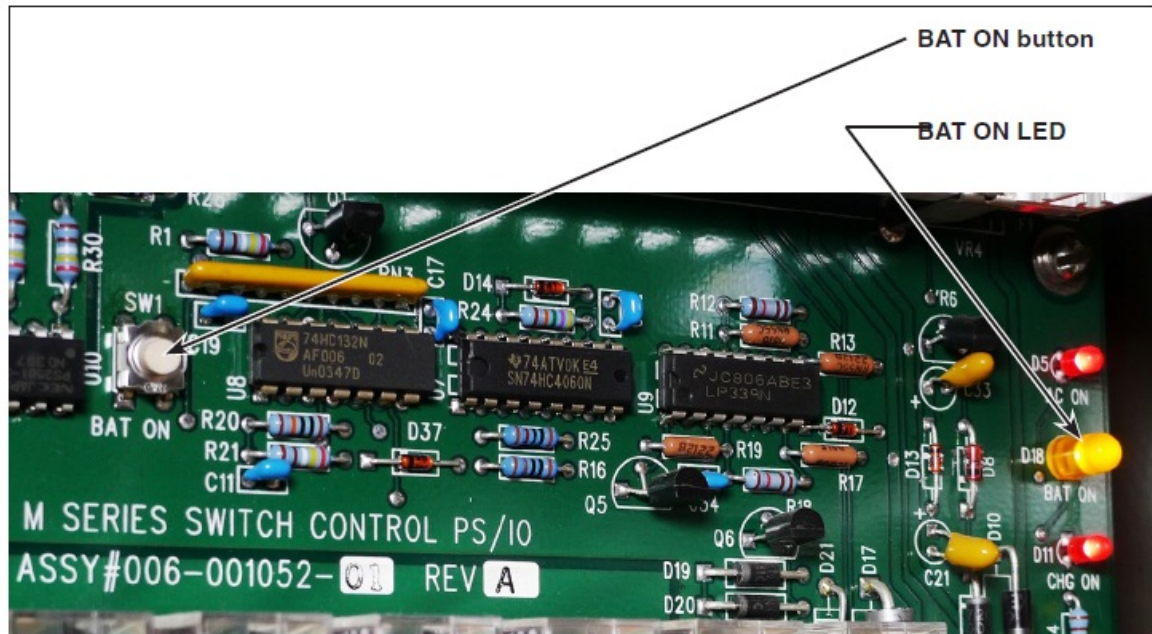

Figure 40. The BAT ON Switch and BAT ON LED on the PS/IO board.
- This black momentary-contact switch is located on the PS/IO board. See Figure 40.